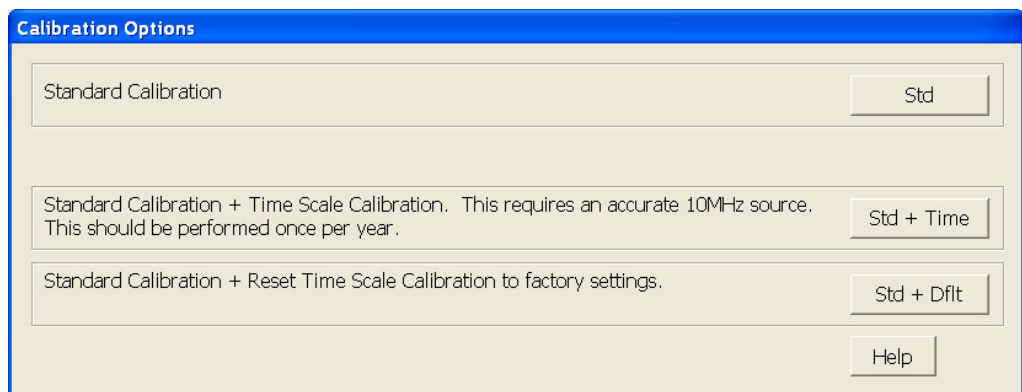

Figure 16 Time Scale Calibration Dialog box
- d During the calibration of channel 1, if you are prompted to perform a Time Scale Calibration, as shown in Figure 16 below.